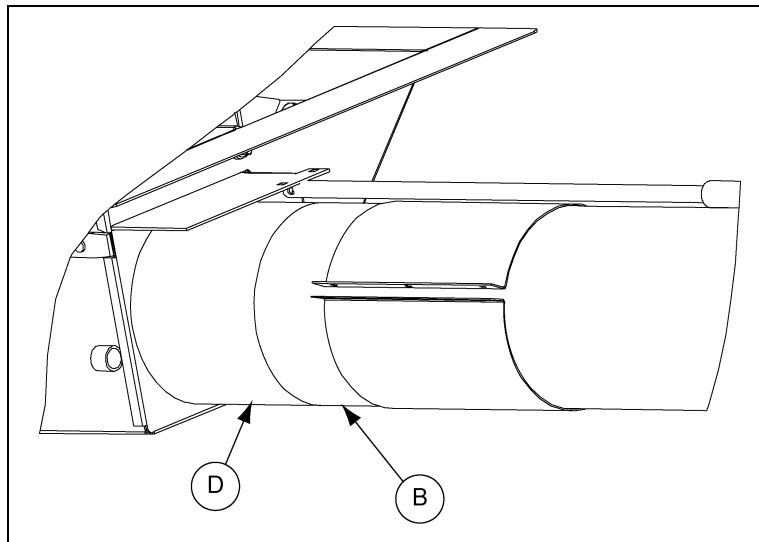

Figure 4G
5. Position the unload tube (B) flush against the centerwell tube (D). (See Figure 4G.)